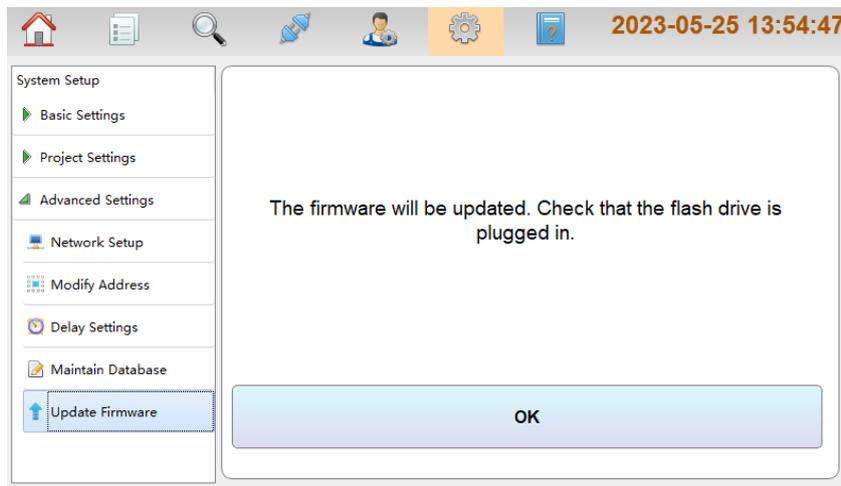

Fig. 4.29
- Update Firmware: Clicking **Update Firmware** in **Advanced Settings** menu and entering the upgrade password (obtained from the maintenance service supplier), users can update firmware as shown in Fig. 4.29 then insert USB flash into the LCD drive board and click **OK** to update firmware.